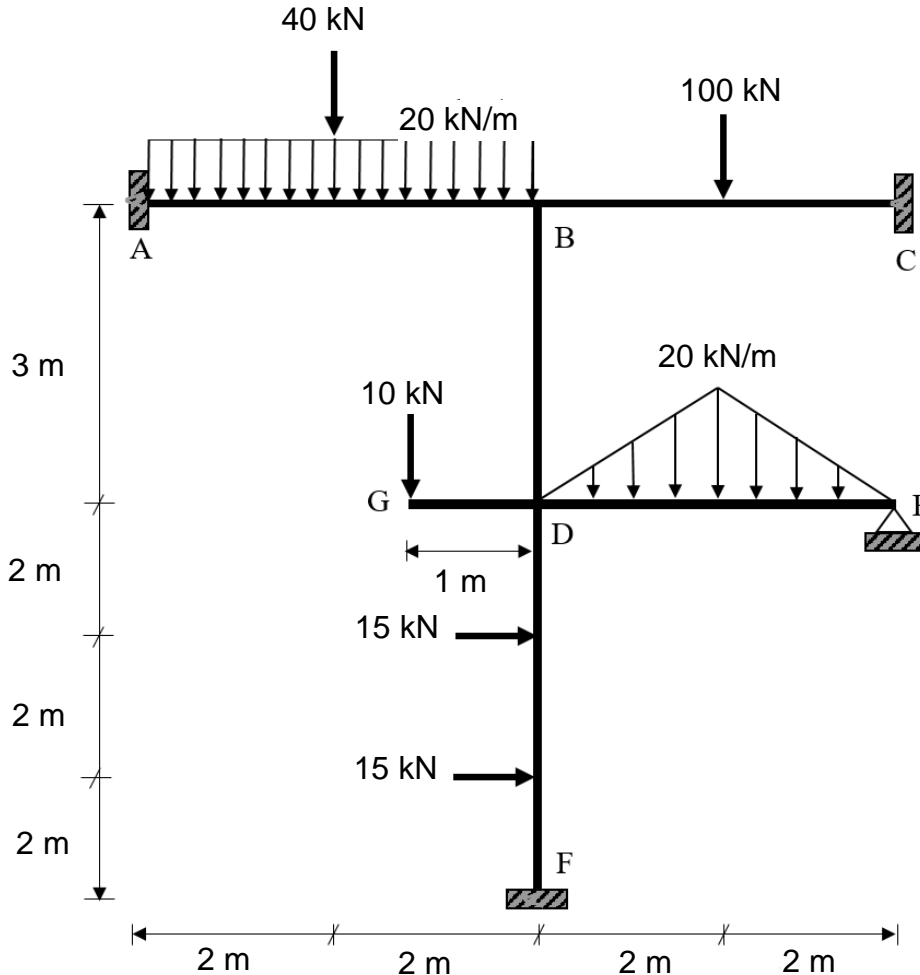

Figure 3
3. **Figure 3** shows a frame carrying a point load of 40 kN and 100 kN at the mid-span of AB and BC and an additional 20 kN/m of uniform distributed load at span AB. Meanwhile, span DE carrying a distributed load varying from 20 kN/m at midspan DE to 0 kN/m at D and E. A point load of 10 kN is loaded at overhang portion for span DG. Supports A, C and F are fixed and support E is pinned. EI is constant for the frame.